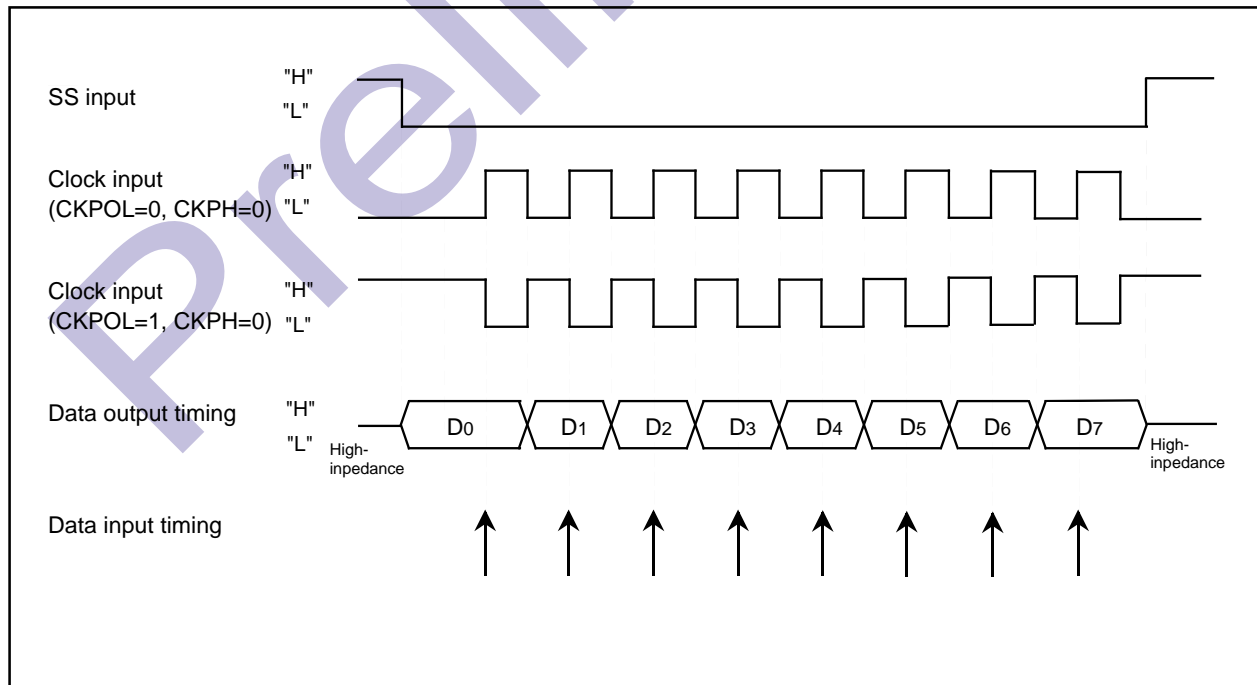

Figure 1.20.9. The transmission and reception timing (CKPH=1) in slave mode (external clock)
- With "1" for bit 1 (CKPH) of UARTi special mode register 3 (addresses 0325₁₆ and 02F5₁₆ [*i* = 3 or 4]), when an SSi input pin is H level, output data is high impedance. When an SSi input pin is L level, the first data is output. After that, serial transmission is synchronized with the clock. Figure 1.20.9 shows the timing.